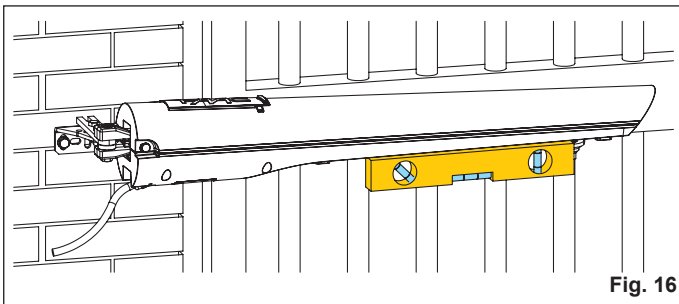

Fig. 16
- Check that the operator is horizontal using a level, as indicated in Figure 16, and temporarily secure it with clamps or two welding points.